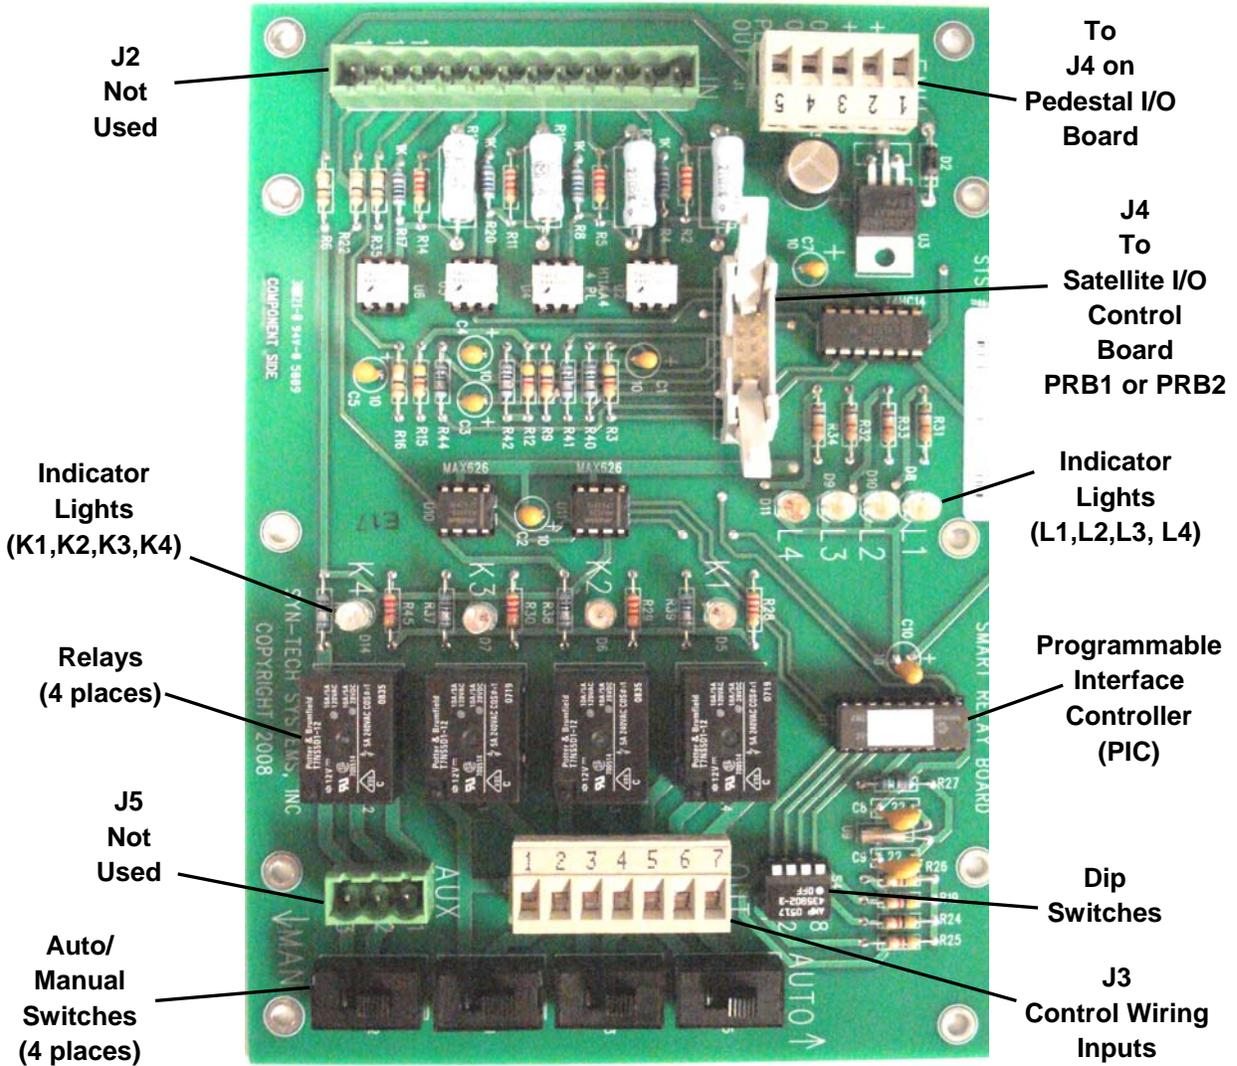

Figure 4-17. Smart Relay Assembly (“as installed” orientation)
- 2) **Using a Smart Relay Assembly.** The Smart Relay Assembly (see Figure 4-17) is so named because of its ability to be programmed to perform multiple functions not possible with simple wiring workarounds. It has a Programmable Interface Controller (PIC) which may be programmed to perform multiple functions. A Smart Relay Assembly may be added as a first or second relay assembly in an FMU. A Smart Relay Assembly may control a maximum of three devices. Where it has four relays, three relays are used for control and the fourth relay is used to generate pulses. Each relay activation generates 10 pulses, which is translated to one transaction.